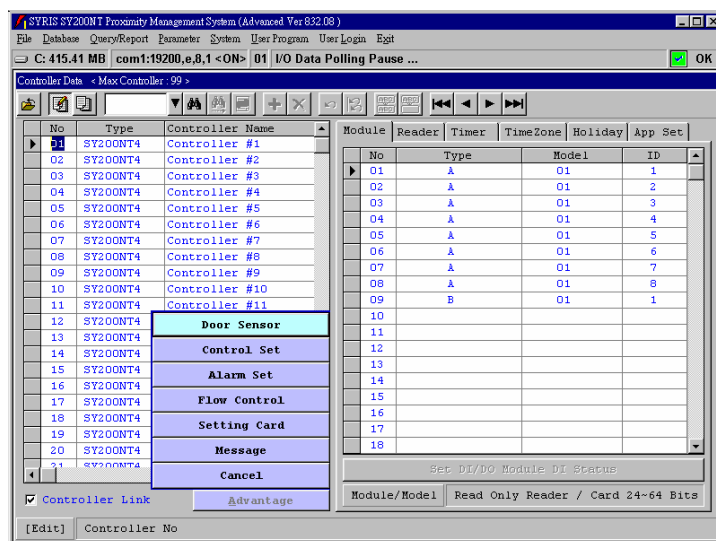

Fig.11-2 Advantage Sub-Menu
3. Click "Advantage" and wait sub-menu display, as Fig.11-2.